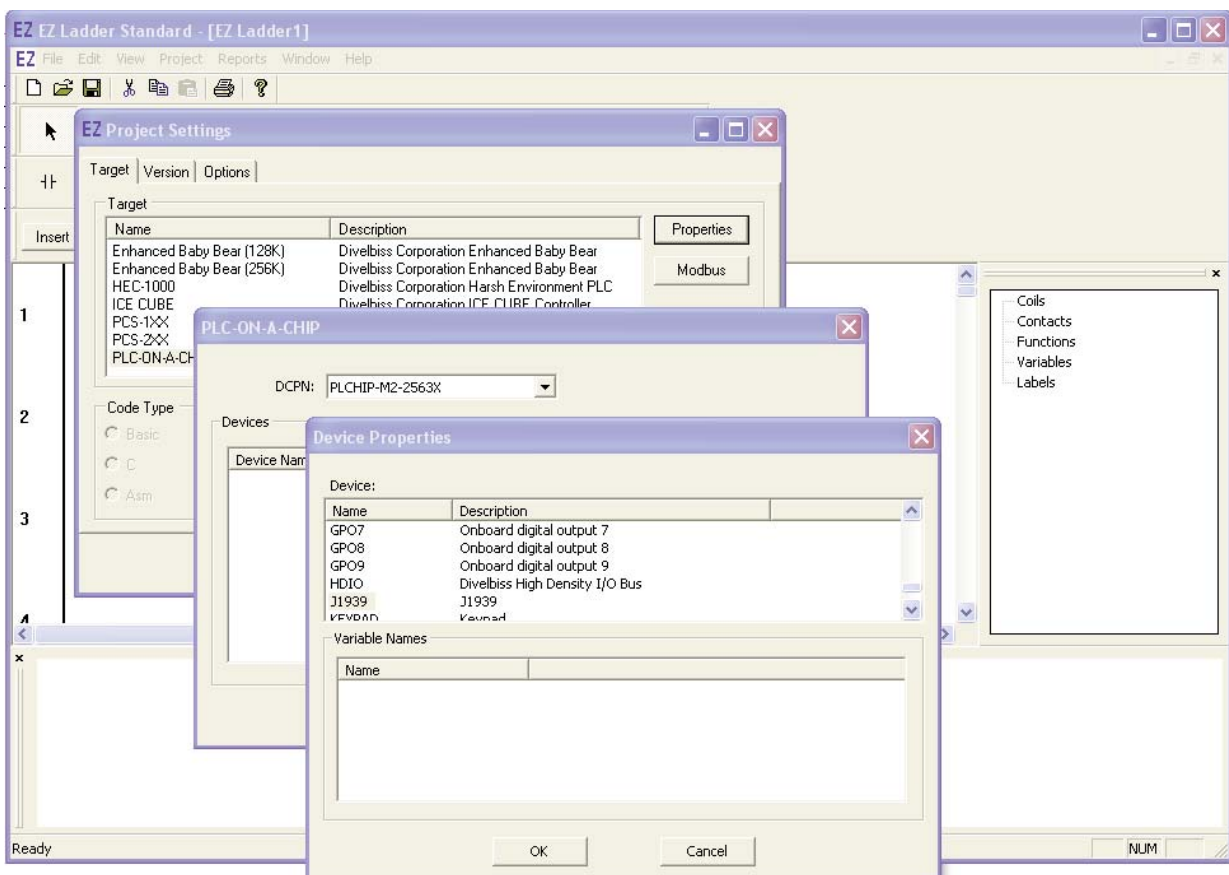

Figure 15.1
4. From the provided ADD dialog *Devices* list, select the J1939. See Figure 15.1.